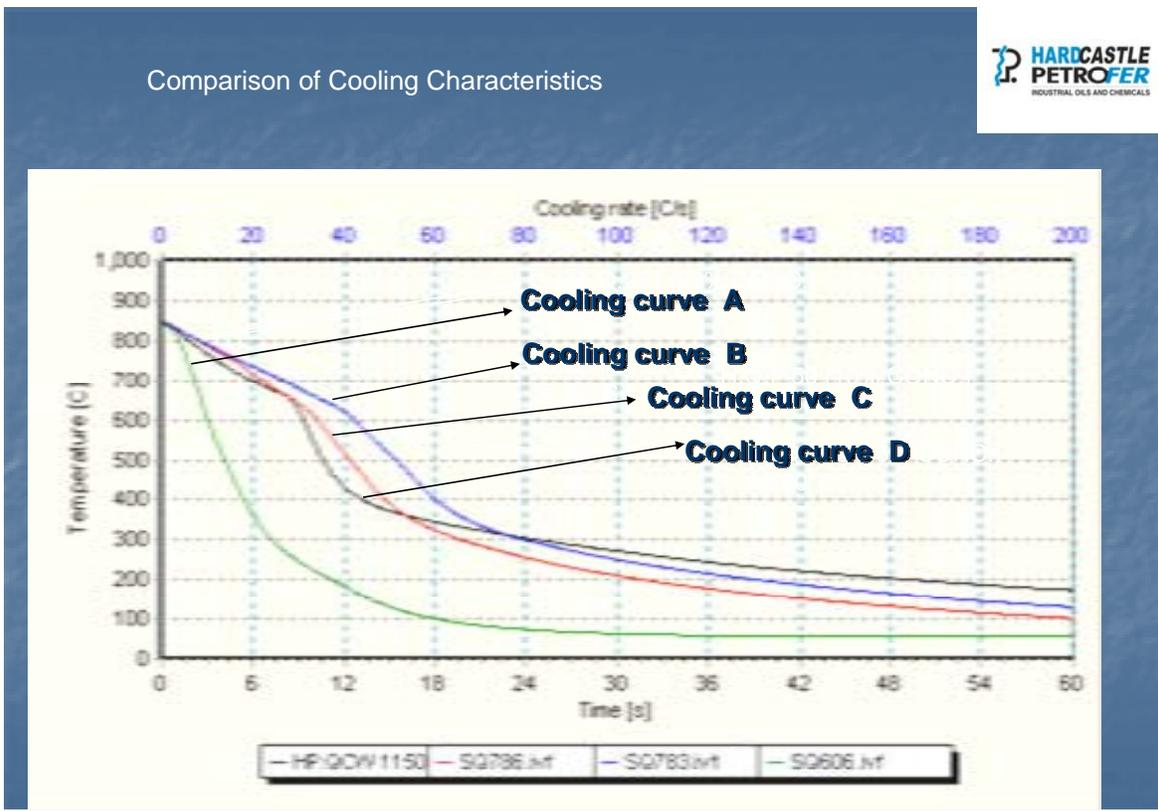

Figure 1: Comparison of Cooling Characteristics
- This is the advanced technology polymer quenchant having cooling speeds similar to oil quenching. (please refer Figure 1)